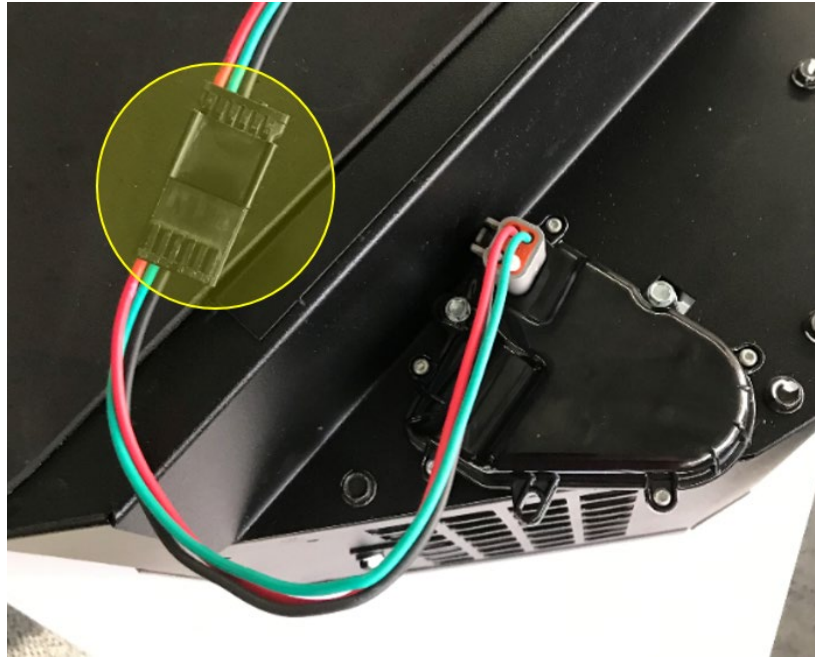

Fig. 5, Jumper Harness Connected to New Sealed Connector
8. Connect the jumper harness to the new sealed connector on the existing HVAC harness as shown in **Fig. 5**. Ensure the connectors are fully engaged.